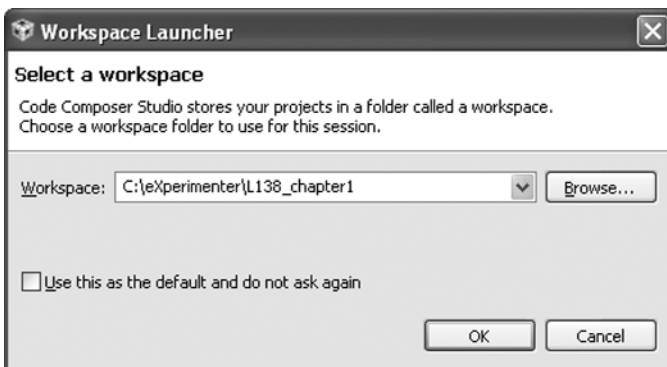
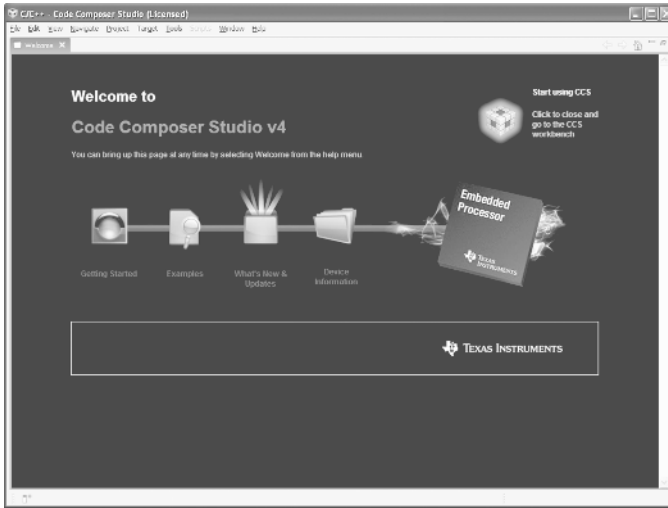

Figure 1.6 Code Composer Studio software version 4 pop-up window.
Figure 1.7 Code Composer Studio software version 4 Welcome screen.
- (6) Switch on the eXperimenter using the Power Switch. The *Power On* LED (D5) should light.
- (7) Launch Code Composer Studio software by double-clicking on the *Code Composer Studio v4* icon on the desktop. You should see a splash screen as shown in Figure 1.5 and then a pop-up window similar to that shown in Figure 1.6.
- (8) Enter `c:\eXperimenter\L138_chapter1` as a workspace, as shown in Figure 1.6 and click *OK*. Next, you should see a welcome screen as shown in Figure 1.7. Click on the *Start using CCS* icon in the top right-hand corner and Code Composer Studio should start in the *C/C++* perspective, but show no projects in the *Project View* window.